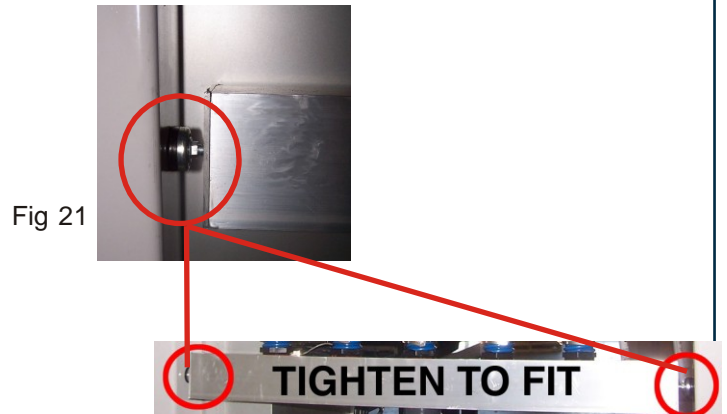

Fig 21
- 9) Using the rubber feet to hold it in place, put the manifold between the two front legs of the table. Unscrew the rubber feet to make a tight fit. Direct the 2" fitting on the manifold towards the pump. (It can be turned forwards or backwards, depending on where your pump is) See Figures 21, 23.